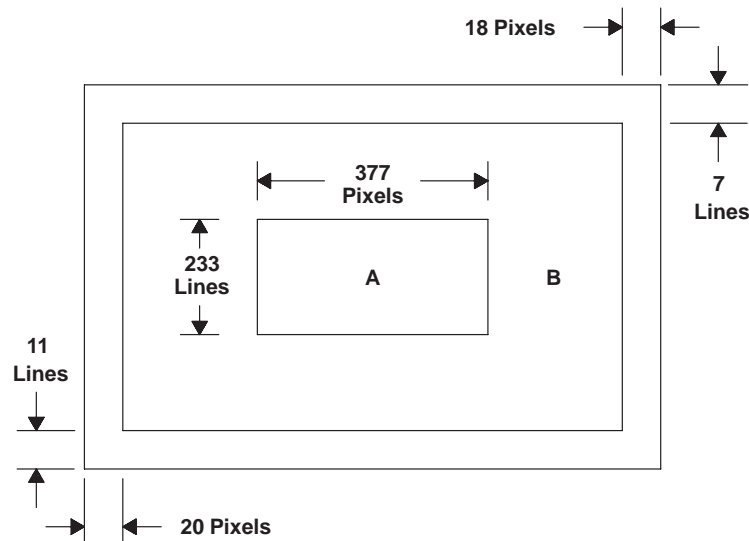

Figure 7. Sensor-Area Map
- Location of the nonuniformity (see Figure 7)